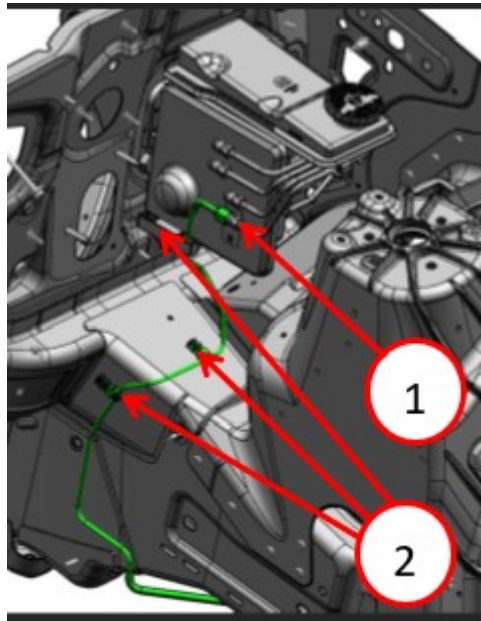

Fig. 3
10. Unthread the left front brake line fittings and release retainers from the left brake line at BSCM (Fig. 3)